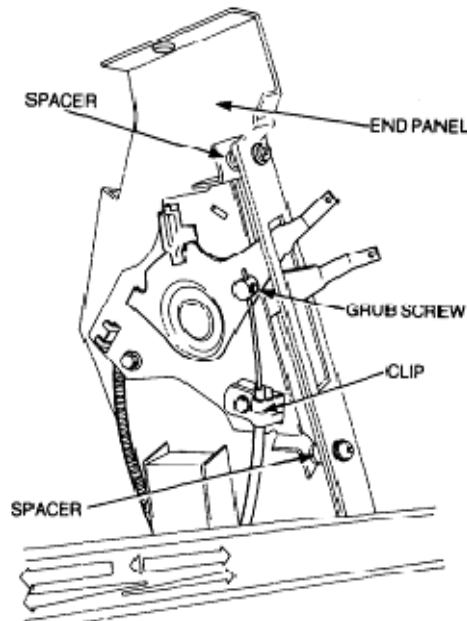

Figure 198 Heater Control Removal
- g. Remove the two screws securing the heater control assembly to the end cover and remove the end panel (Figure 198).